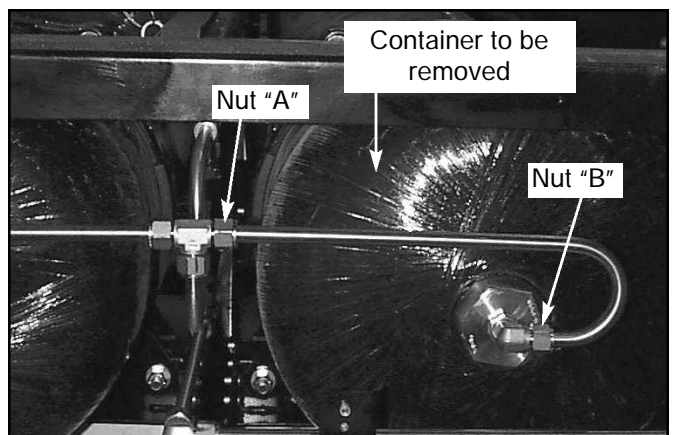

Figure 11-3 Vent Line Removal
1. Loosen fitting nuts “A” and “B” (reference Figure 11-3). After nuts are loose, slide the nuts away from the fitting on the vent line.
1. If the inner tank is to be removed, loosen the fittings, nuts "A" and "B" on the vent line on the inner tank (reference Figure 11-3). After the nuts are loose, slide the nuts away from the fittings.
6. While ensuring proper alignment; reinstall the vent line assembly removed in step 4 of section 11.2 or step 2 of section 11.3 of this manual. Tighten nuts "A" and "B" (Figure 11-3) per the fitting manufacturer's specifications.